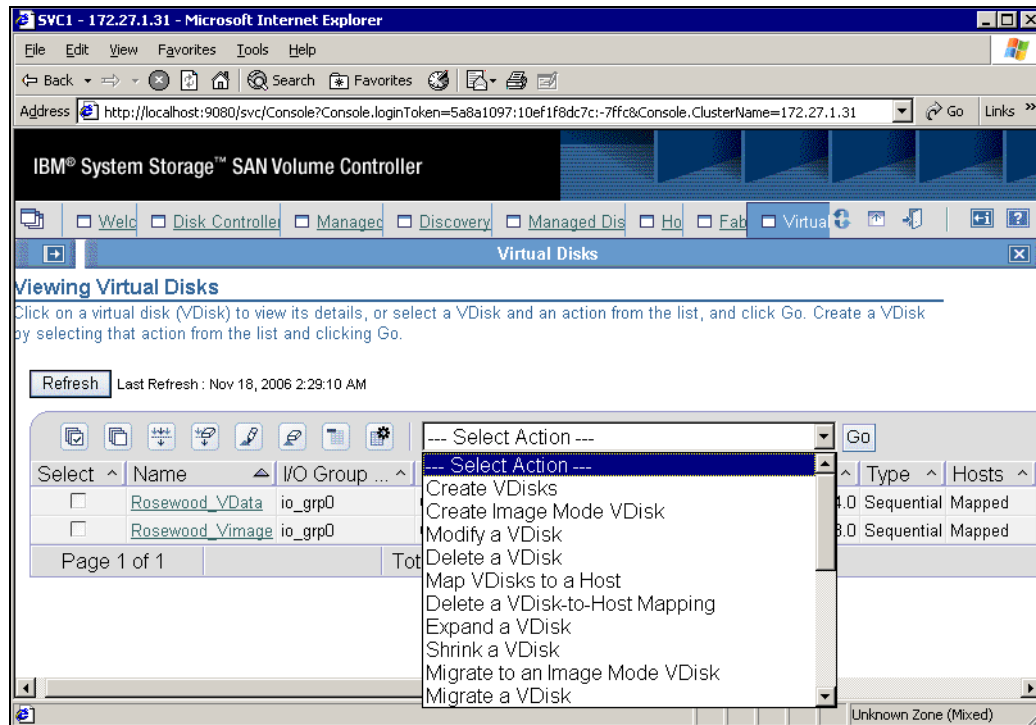

Figure 10-11 Working with virtual disks
3. The MDisk is then used to create VDisks that will be presented to the host. This is done by selecting **Working with Virtual Disk** → **Virtual Disks** from the SVC Welcome page. From the drop-down menu select **Create VDisk**, as shown in Figure 10-11.